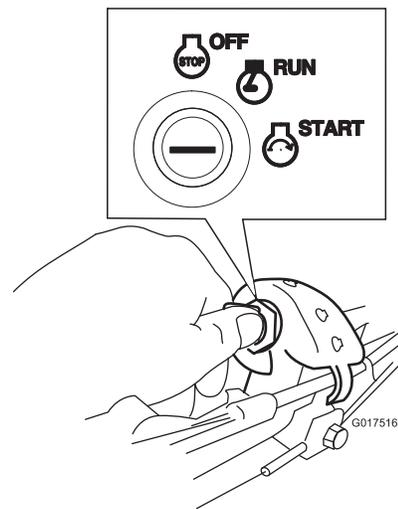

Figure 19
Turn and hold the ignition key to the Start position (Figure 19); when the engine starts, release the key.
1. Turn the ignition key to the Run position (Figure 19).